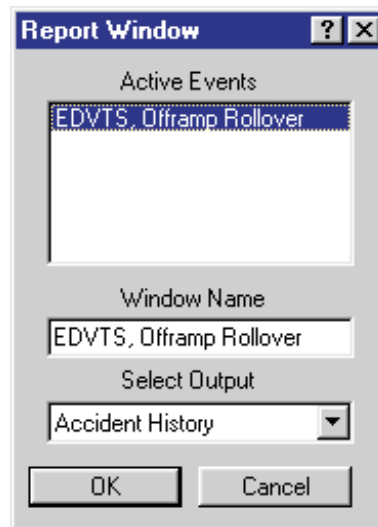

Figure 5-14 Report Window Information dialog, showing the name of the event(s) in the current case.
- Choose *Tires, Axle 1, Right, Outer* from the variable group list. The Variable Selection list for the right front tire is displayed (see Figure 5-14, above).
- Click *Add New Object*. The Report Window Information dialog is displayed, as shown in Figure 5-14, and includes a list of the active events (*EDVTS, Offramp Rollover* is the only event in this file). The Report Window Information dialog also includes the user-editable *Report Window Name* text field and *Select Output* option list.